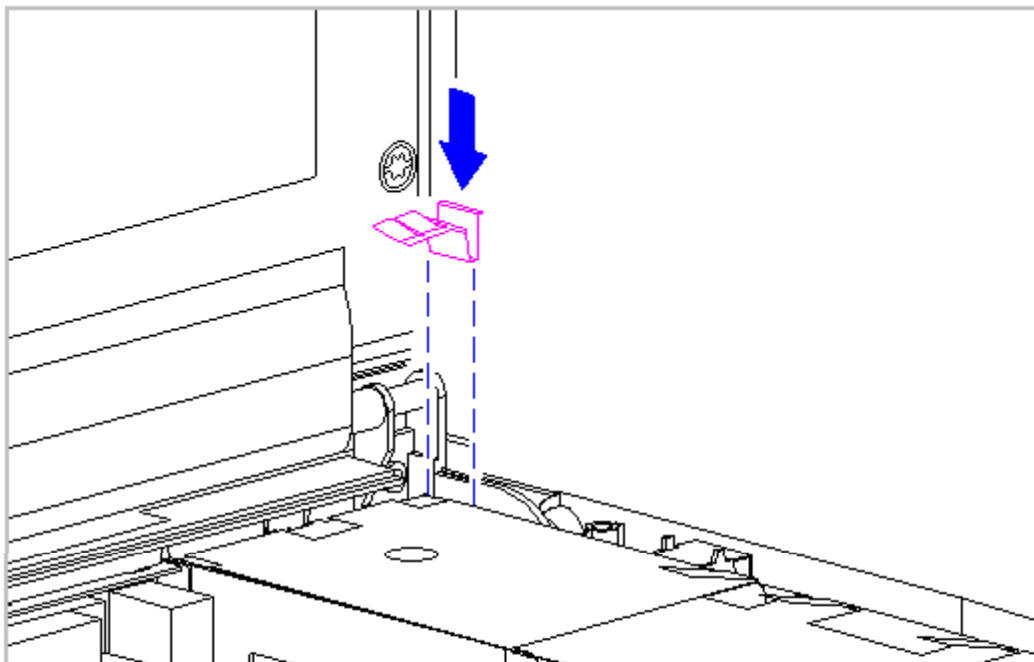

Figure 5-123. Replacing the Right Clutch Ground Clip
34. Replace the right clutch ground clip located between the clutch and the CPU base (Figure 5-123).